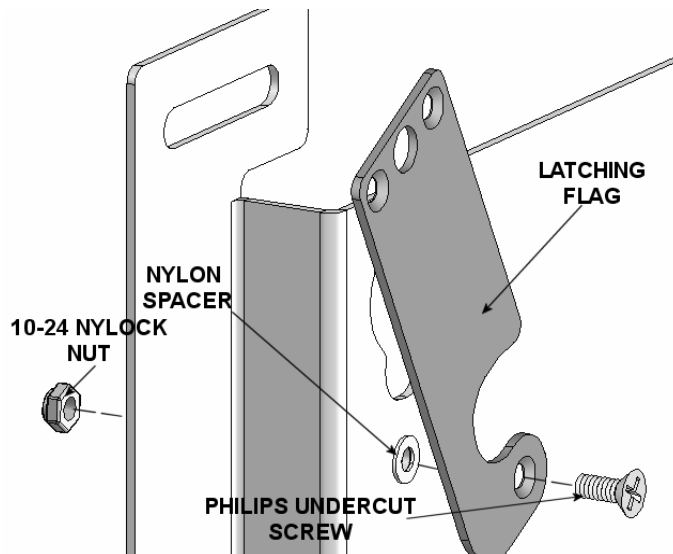

Figure 2
- 1) Secure latching flag to mount using the 10-24 undercut screw, Nylon washer, and Nylock nut (see Figure 2). Tighten until friction will hold the flag in place.